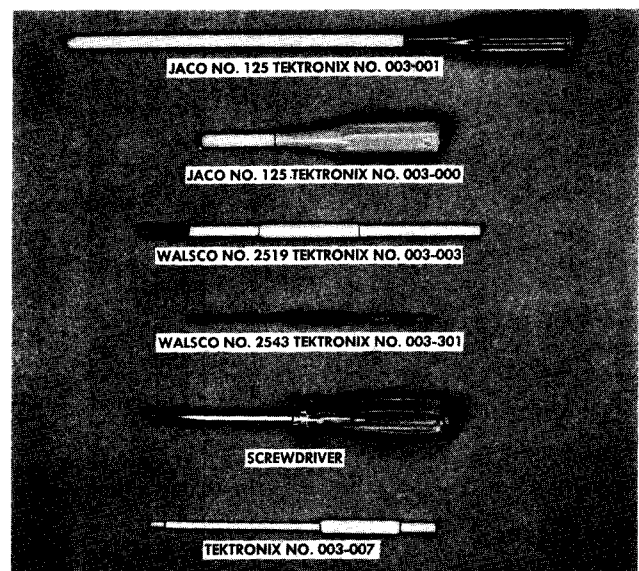

Fig. 6-1. Suggested Calibration Tools.
(6) Tektronix Type K or Type L Plug-In Unit. (If delay-line adjustment is not required, other Tektronix Plug-In Units may be substituted.)
(7) Low-Capacitance Recalibration Tools: Tektronix part numbers 003-000—003-007 and 003-301. (See Recalibration Tools in Accessories Section of Operator's Manual and, Fig. 6-1).
(8) Tektronix Type P6000 Probe.
(9) Test Oscilloscope, Tektronix Type 316 or equivalent, providing triggered sweeps and a bandpass of at least dc to 10 mc.
(10) Gain Set Adapter, Tektronix Type EP53A.